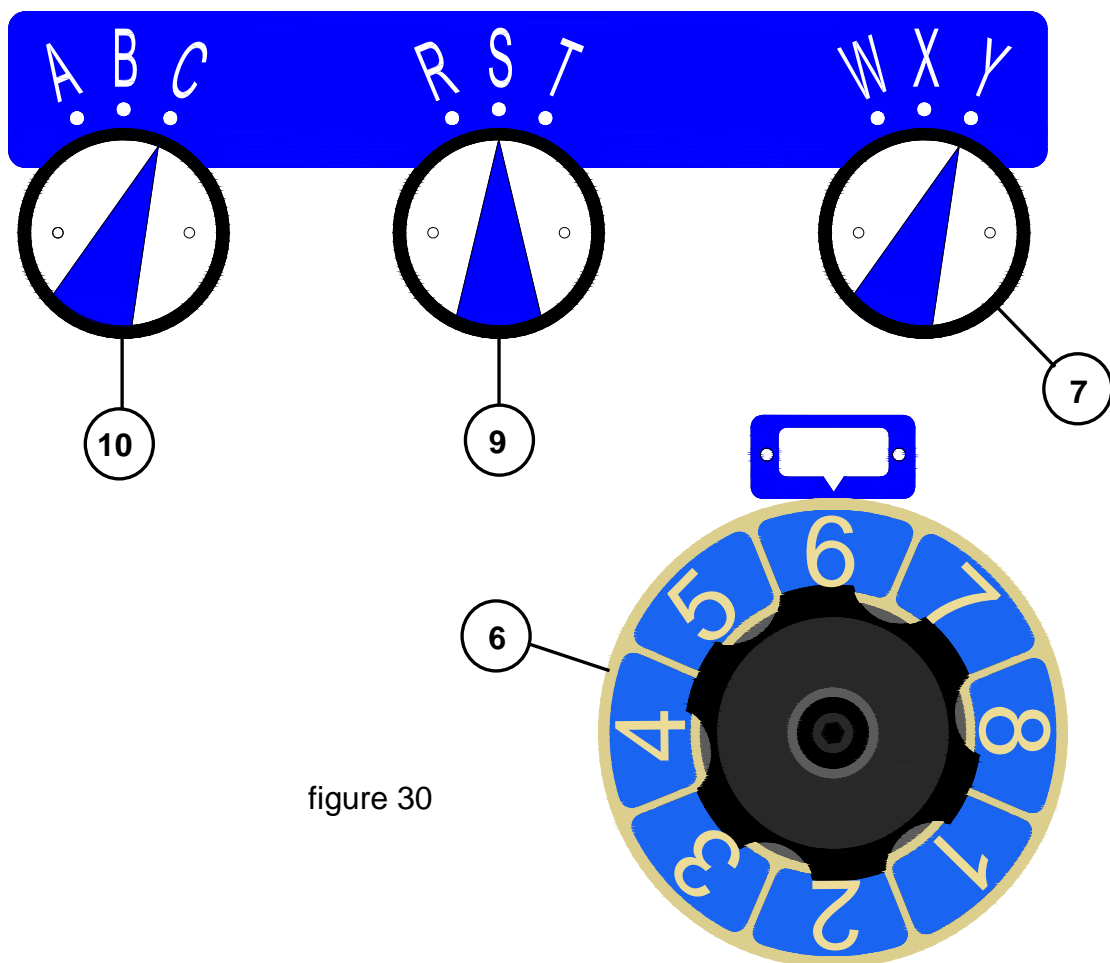

figure 30
The three knobs as shown in (fig. 30) are used to change the feed rate or number of threads-per-inch. This part of the lathe is commonly referred to as the Quick Change Gear Box. It has been designed to handle both inch (imperial) and metric (mm). The knob on the left (10) **A, B, & C**, the center knob (9) **R, S, & T**, and the right knob (7) **W, X, & Y** are set to a selected value from the chart on the following page. The feed selector dial (6) will be set to a numerical value from the chart. (This chart is also located on the front of the headstock gear cover.)